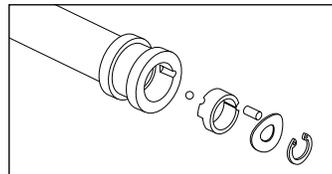

Fig. 3
7. Carefully remove the index plate, wavy washer, index pin and index ball. The index ball is located underneath the index plate (Fig 3). Take care not to lose the index ball, it is small and can be lost easily.